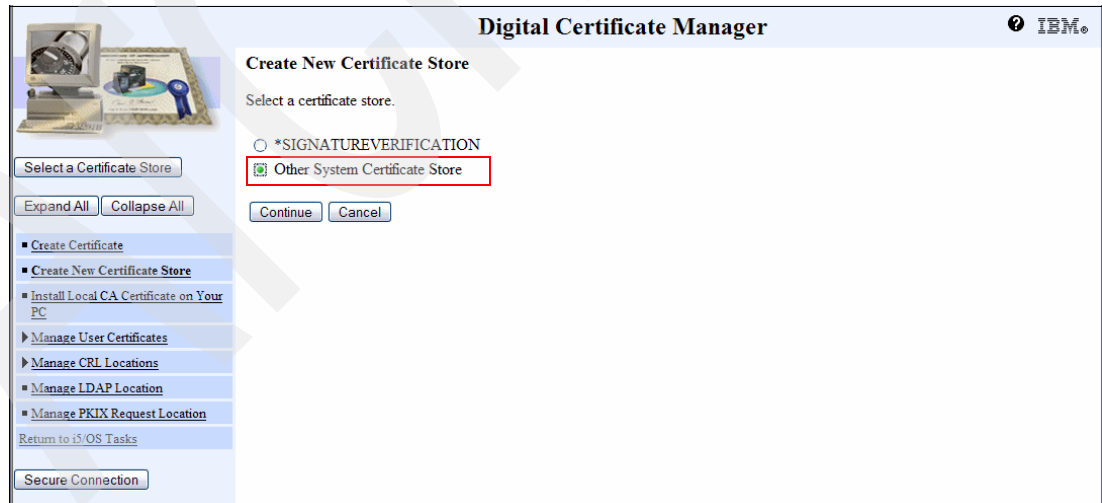

Figure 6-41 Creating new certificate store 1
2. In the Create New Certificate Store window, select **Other System Certificate Store** and click **Continue**, as shown in Figure 6-41.